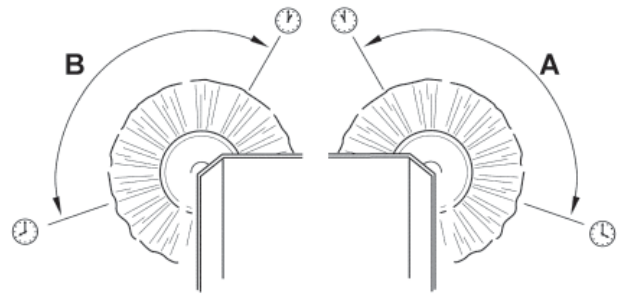
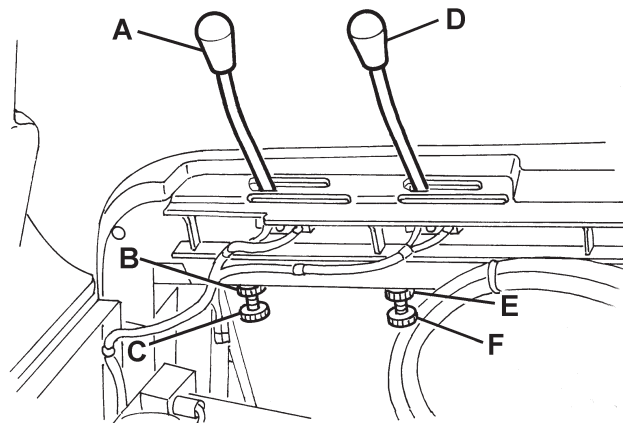

Figure 9
Figure 10
- Check that the side broom prints are as shown in the figure (A and B, Fig. 9).
2. Engage the parking brake with the pedal (75) and the lever (68).
3. Turn the ignition key (69) to "0".
4. Open the hood (22) and fasten it with the support rod (36).
5. **For the right side broom**, operate on the idle gear of the lever (A, Fig. 10), by loosening the ring nut (B) and by adjusting the adjuster (C) until the correct print (A, Fig. 9) is achieved. Then fasten the adjuster with the ring nut (B, Fig. 10).
**For the left side broom**, operate on the idle gear of the lever (D, Fig. 10), by loosening the ring nut (E) and by adjusting the adjuster (F) until the correct print (B, Fig. 9) is achieved. Then fasten the adjuster with the ring nut (E, Fig. 10).